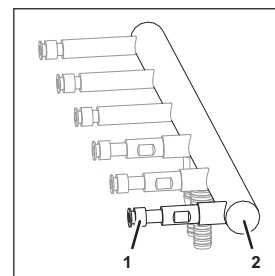

Fig. 16
1. Remove the connection (Fig. 16/1) from the soda dispenser (Fig. 16/2).